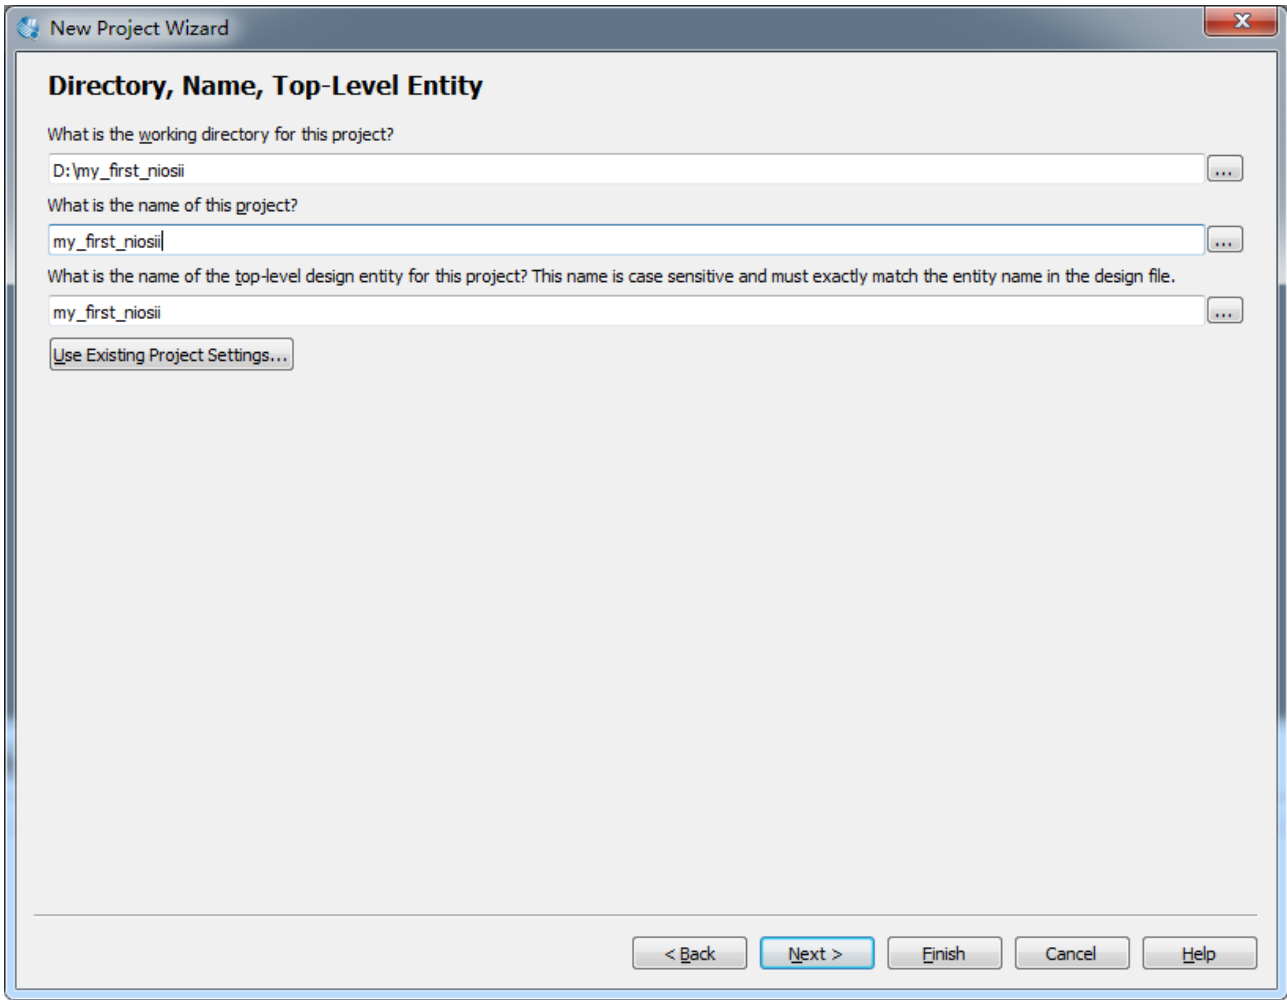
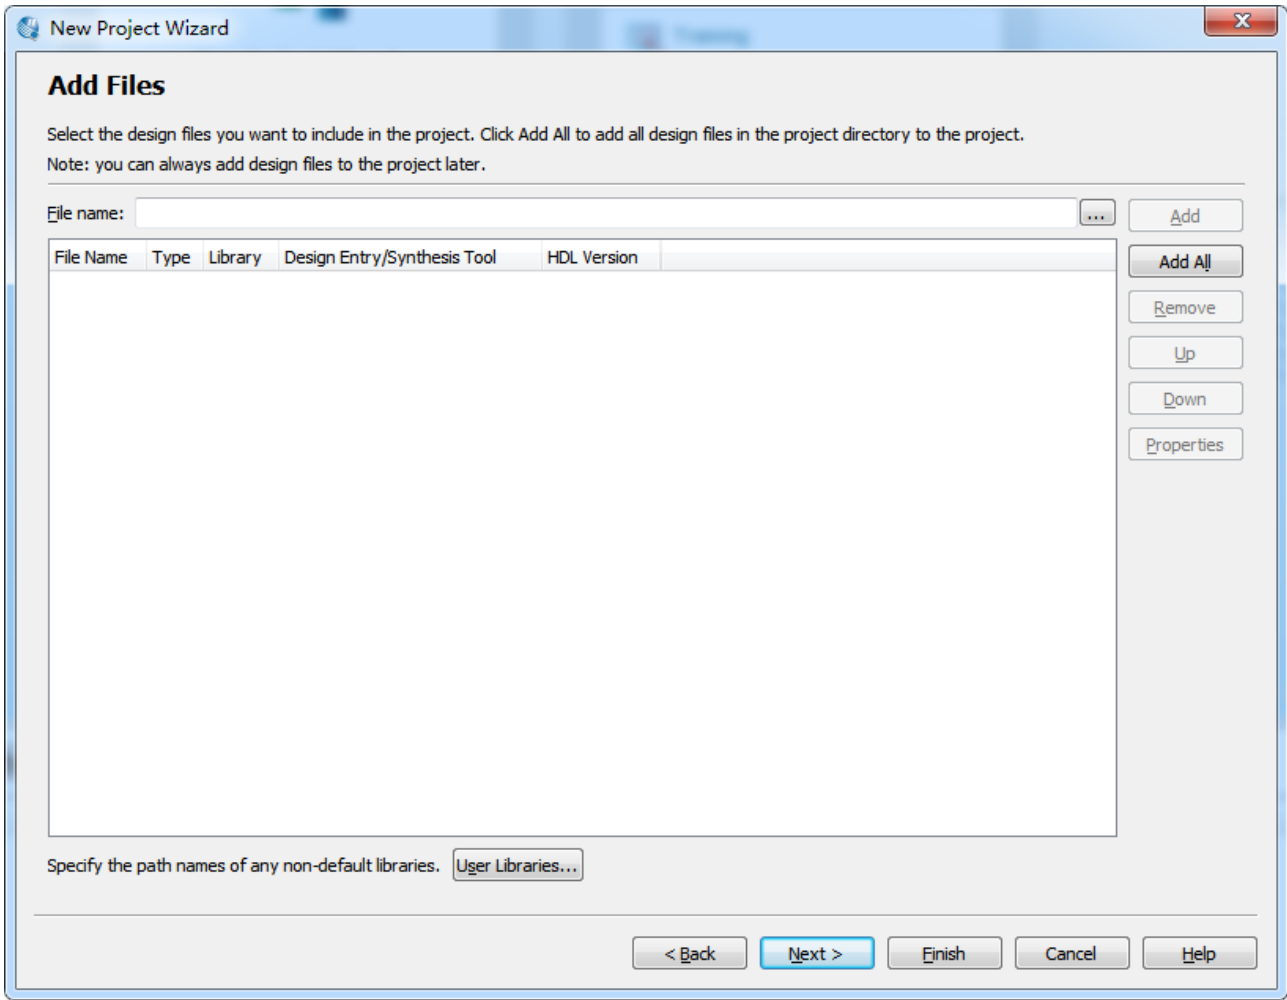

Figure 1-3 Define the working directory, project name, and top-level design entity name
Figure 1-4 Add Files
2. Choose a working directory for this project. Enter the project name and top-level entity name, as shown in **Figure 1-3**. Click **Next** and a window will pop up, as shown in **Figure 1-4**.